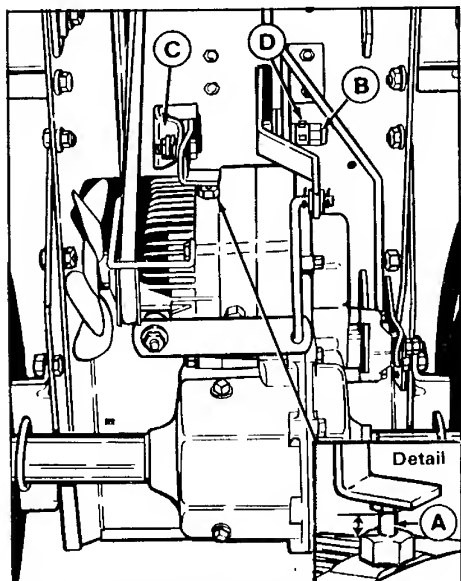

Figure 30. Engagement Lever
If lever (H, figure 8) operates too hard or loose, it can be adjusted. Loosen or tighten the nut (B, figure 30) to loosen or tighten the lever. Some models are equipped with set-screws (D) which must be loosened to adjust the nut.
4. Locate the plunger (A, figure 30) on front of the transmission which is operated by the lever. Check the clearance between the plunger and the fitting as shown in the detail in figure 30. it should be 0.060 inch to 0.125 inch.
5. To adjust, loosen the screws which secure the engagement lever support bracket (C, figure 30) and move bracket to achieve the 0.060 to 0.125 inch dimension, then tighten the screws.